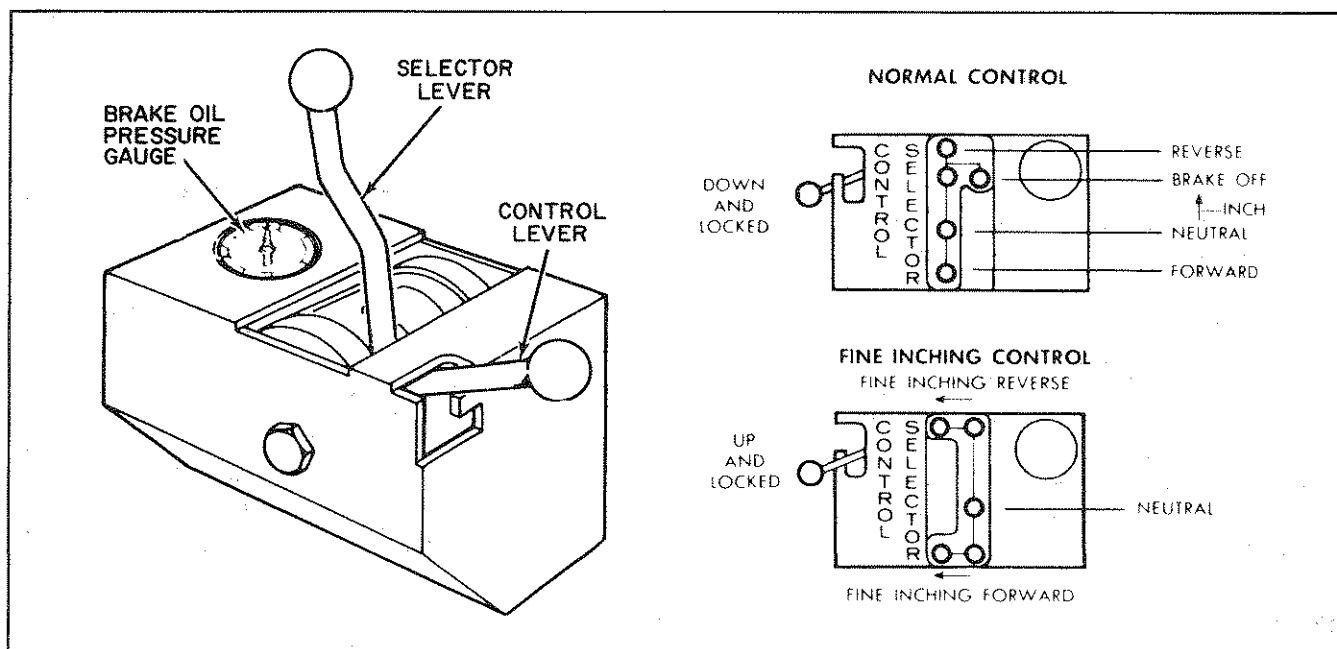

Figure 2-2. Operating Controls, Earlier Production Power Controlled Winch
2-14. EARLIER PRODUCTION HANDLING GEAR. (See Figure 2-2.) There are two different shift patterns that can be selected for winch operation. These are Normal Control and Fine Inching Control. The Normal Control shift pattern should be used for routine or normal operation encountered in logging and heavy construction. The Fine Inching Control should be used in: (1) Pipelining for positioning pipe and lowering backhoes, (2) Oil field work in rigging wells, towing and leveling derricks, and placing pipe, (3) Mining for towing control stations and matching pipe flanges, (4) General Construction for various handling, raising, lowering, towing, yo-yo operation and rescue work. Operating procedures for Normal Control and Fine Inching Control are given in paragraphs 2-15 and 2-16.